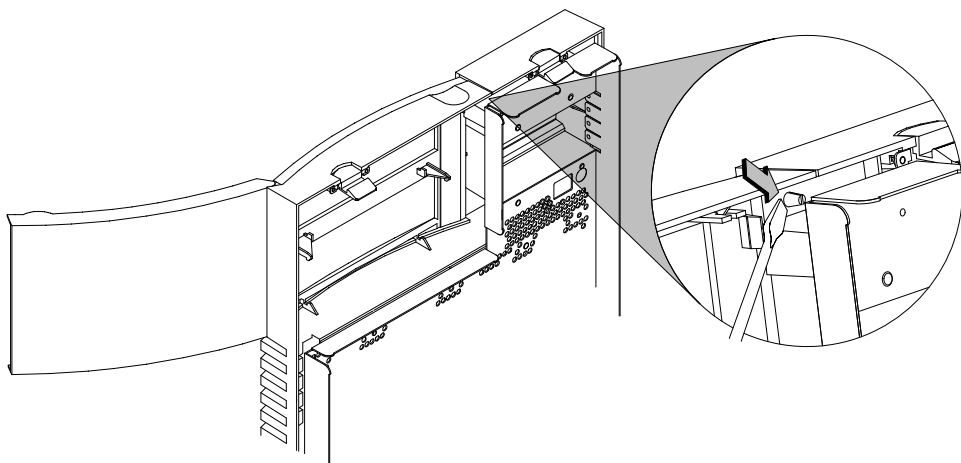

Figure 8. Breaking Off the Plastic Tab
1. Using a flat blade screwdriver on the inside of the front bezel, break off the plastic tab behind the sheet metal as shown in Figure 8.